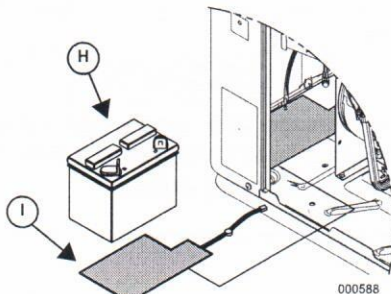

Figure 2.
6. Install battery heater (I) underneath battery (H). (See Figure 2).